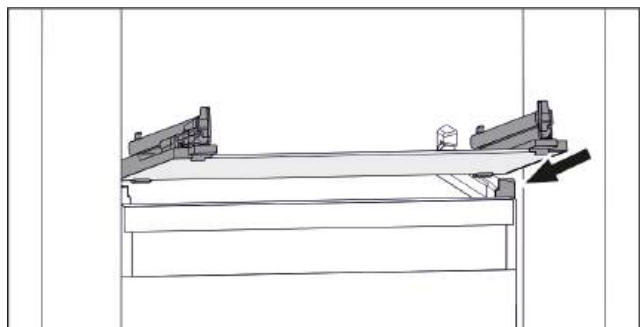

Fig. 126 Example illustration of glass shelf
- ▶ Position glass shelf at an angle behind the stoppers. (see Fig. 126)